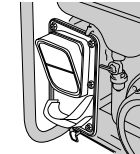

FIGURE 24:
3. Soak the element in clean engine oil and squeeze out the excess oil as shown in figure 24. The engine will smoke during initial start-up if too much oil is left in the element.